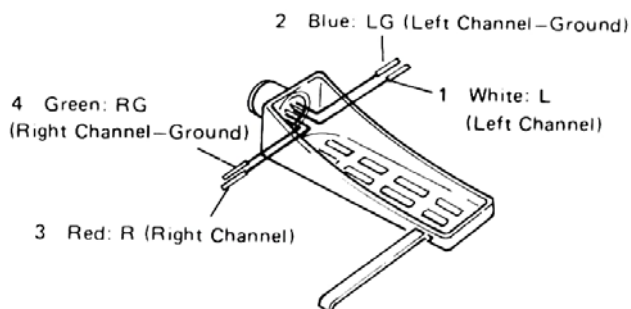
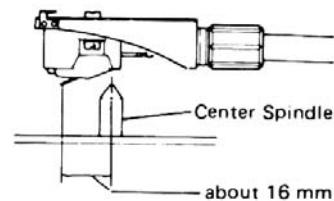

Fig. 6 Replacing cartridge
Fig. 7 Adjusting overhang
- (1) Loosen the lock nut of the tonearm, and remove the headshell from the tonearm.
- (2) Loosen the screws fastening the cartridge to the headshell, then remove the cartridge from the headshell.
- (3) Remove the four lead wires of the headshell from the cartridge, taking care not to damage the wires.
- (4) Connect the four lead wires to the new cartridge. The four lead wires are colour-coded as shown in Fig. 6 to help identify their polarities. Be sure to match the polarities correctly between the headshell and the new cartridge.
- (5) Secure the cartridge to the headshell tentatively (not too firmly).
- (6) Adjust the overhang. This is accomplished by moving the tonearm all the way to above the center spindle of the platter, sliding the cartridge inside the headshell back and forth, and fixing it so that the distance between the stylus tip and the center of the center spindle is about 16 mm, as shown in Fig. 7.
- (7) When the above adjustment is finished, re-adjust the horizontal balance of the tonearm, the tracking force and Anti-Skate Control following the instructions given on Item 1-(3), (4) above. Be sure to adjust the tracking force to the value specified by the manufacturer of the new cartridge.